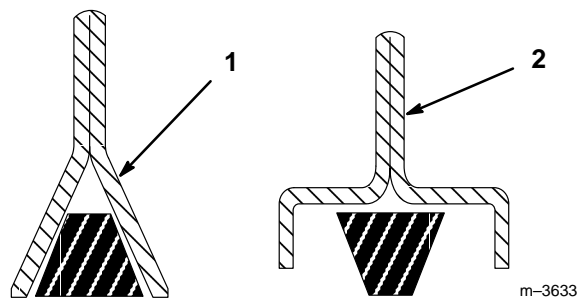

Figure 17
- B. Route the belt around the tractor PTO pulley and v-groove idler pulley, then around the auger pulley on the snowthrower. Lift up on the lift handle of the backside idler pulley and place the wide, back surface of the belt under the pulley (Fig. 17 & 18).